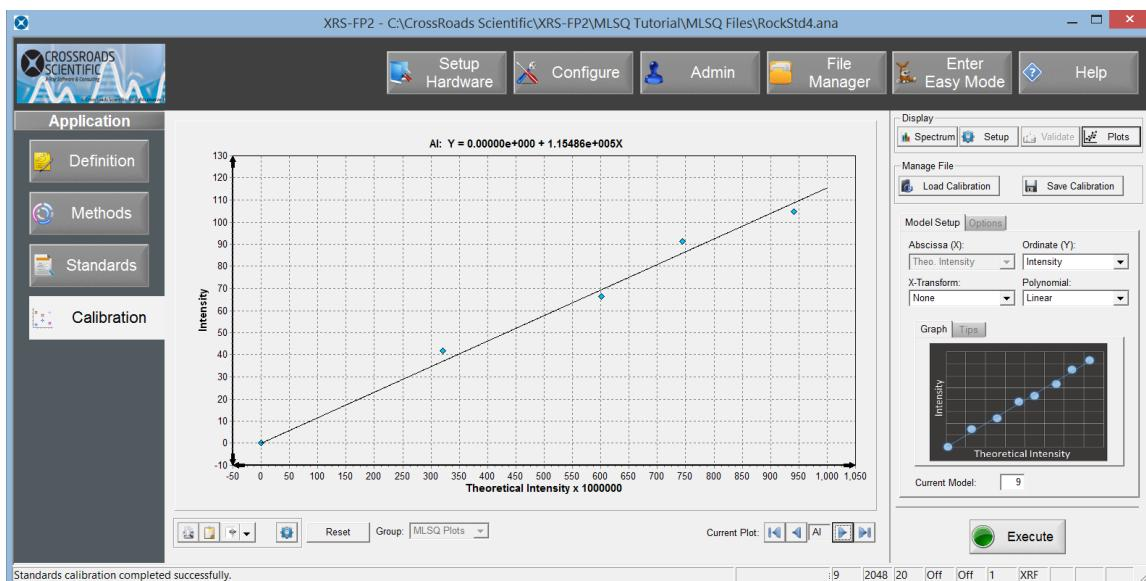

Figure 19. MLSQ Least Squares Plot for Al. Least squares plot for Al.
26. After the SIRFP - MLSQ calibration has been completed, the **Plot** button can be selected to display the SIRFP plot as well as the least squares plot for each element (see Fig. 19 below). Use the “Previous” and “Next” buttons to display plots for each of the elements. Scroll through all the plots and observe the quality of the fit for each element. After scrolling through all plots, the panel will close or you can use the **Exit** button at any time.